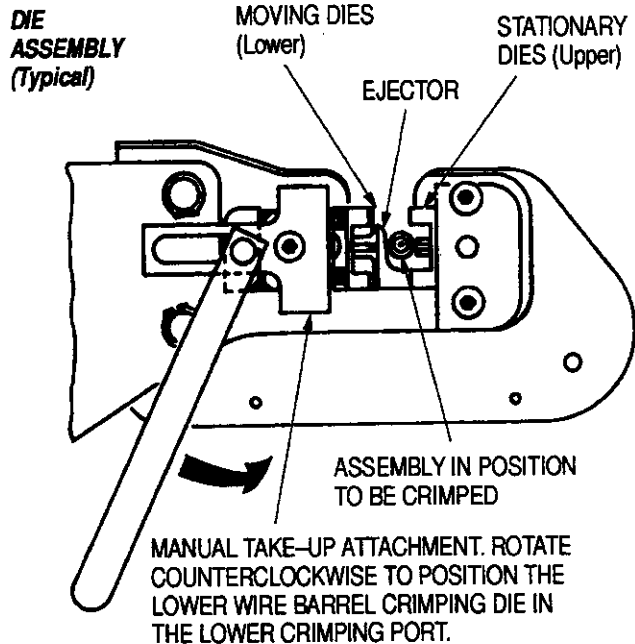

Figure 6
**B. Die Assembly Application (Figure 6)**